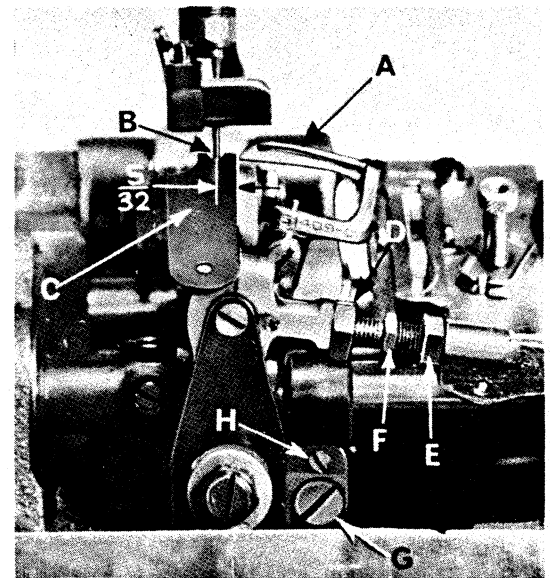

Fig. 7
Insert a new needle, type and size as specified. If the looper gauge is 5/32 inch (4.0mm), for example, set the looper (A, Fig. 7) so the distance from the center of the needle (B) to the point of the looper is 5/32 inch (4.0mm), when the looper is at its farthest position to the right.
If adjustment is necessary, loosen lock screw (G, Fig. 7) and turn stop screw (H) as required. Turning stop screw clockwise sets the looper to the rear and turning it counterclockwise acts the reverse. Holding looper to the front while making this adjustment may prove helpful. Tighten lock screw when setting is obtained and recheck the adjustment.